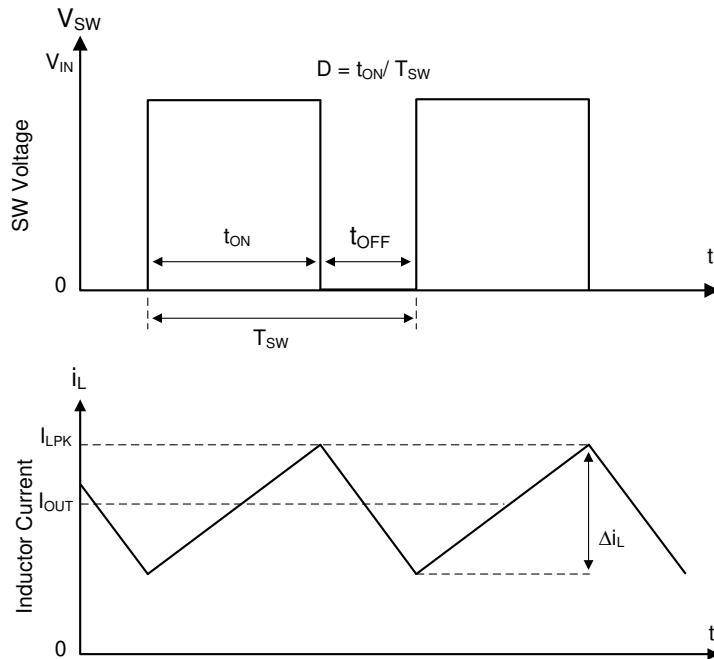

図 8-1. SW Node and Inductor Current Waveforms in Continuous Conduction Mode (CCM)
The following operating description of the LMR50410 refers to セクション 8.2 and to the waveforms in 図 8-1. The LMR50410 is a step-down synchronous buck converter with integrated high-side (HS) and low-side (LS) switches (synchronous rectifier). The LMR50410 supplies a regulated output voltage by turning on the high-side and low-side NMOS switches with controlled duty cycle. During high-side switch ON time, the SW pin voltage swings up to approximately V_{IN} , and the inductor current, i_L , increases with linear slope $(V_{IN} - V_{OUT}) / L$. When the high-side switch is turned off by the control logic, the low-side switch is turned on after an anti-shoot-through dead time. Inductor current discharges through the low-side switch with a slope of $-V_{OUT} / L$. The control parameter of a buck converter is defined as Duty Cycle $D = t_{ON} / T_{SW}$, where t_{ON} is the high-side switch ON time and T_{SW} is the switching period. The converter control loop maintains a constant output voltage by adjusting the duty cycle D. In an ideal buck converter, where losses are ignored, D is proportional to the output voltage and inversely proportional to the input voltage: $D = V_{OUT} / V_{IN}$.